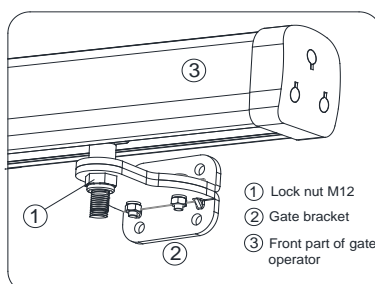

Fig.11
- Install the gate bracket on to the front part of gate operator using the lock nut. See Fig.11